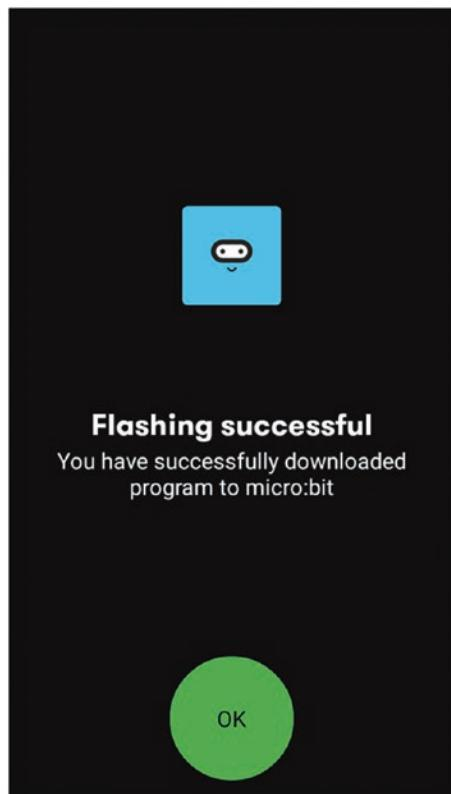

Figure B-18. Flashing successful message
8. Tap the OK button to disconnect the micro:bit board from the app (see Figure B-18).